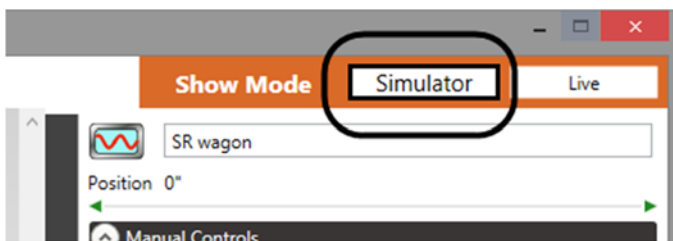

Figure 22
2. Confirm that the **Simulator** mode button is pressed (Figure 22).